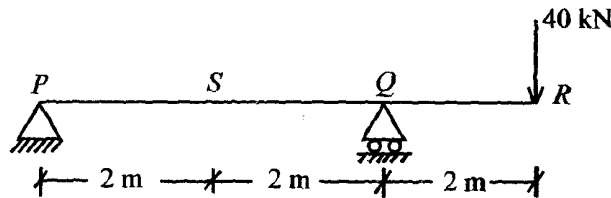

Fig. 4
2. A beam PQRS of the uniform cross-section is loaded as shown in Fig. 4. Determine (i) slope at point R, (ii) slope at point P, and (iii) deflection at point S. Use conjugate beam method. Given : $E = 200 \times 10^6 \text{ kN/m}^2$; $I = 120 \times 10^{-6} \text{ m}^4$. 20